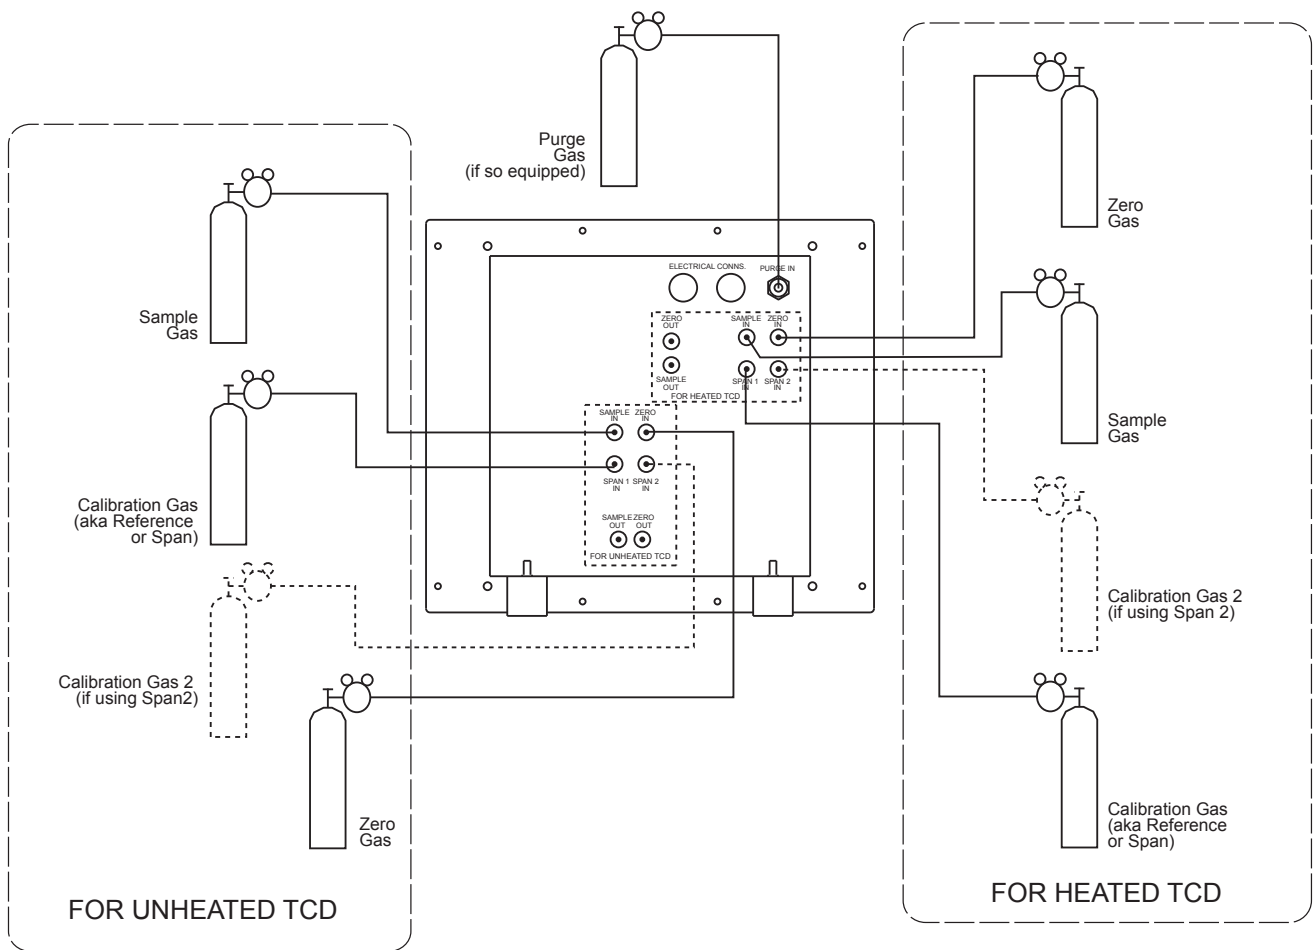

FIGURE 4-1
- d. Make proper tubing connections (FIGURE 4-1).
- 4.5.3 Connect ZERO and CALIBRATION gas cylinders to the ZERO and SPAN 1 inlets respectively at the rear of the instrument case. (Figure 4-1)
- 4.5.4 Connect the SAMPLE GAS to the SAMPLE GAS INLET located at the rear of the instrument case. (Figure 4-1) Note that the analyzer is equipped for ***either*** heated or unheated detector.